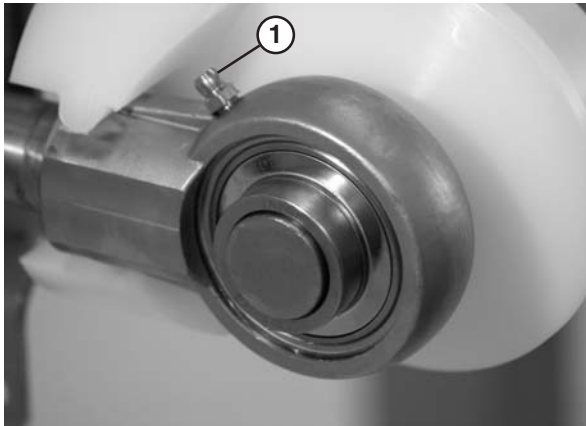

Figure 42
1. Add grease to the bearing using the zerk fitting (**Figure 42, item 1**) on the exterior of the bearing shaft assembly.